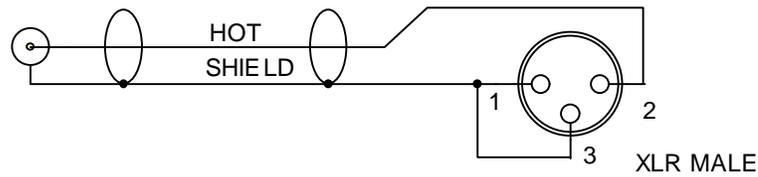

Figure 6. Unbalanced input cable
- ii. Connect the audio generator to the input of channel 1. Set the generator output level to approximately -20dBu @1KHz. If the generator has an unbalanced output, refer to Figure 6 for termination information.